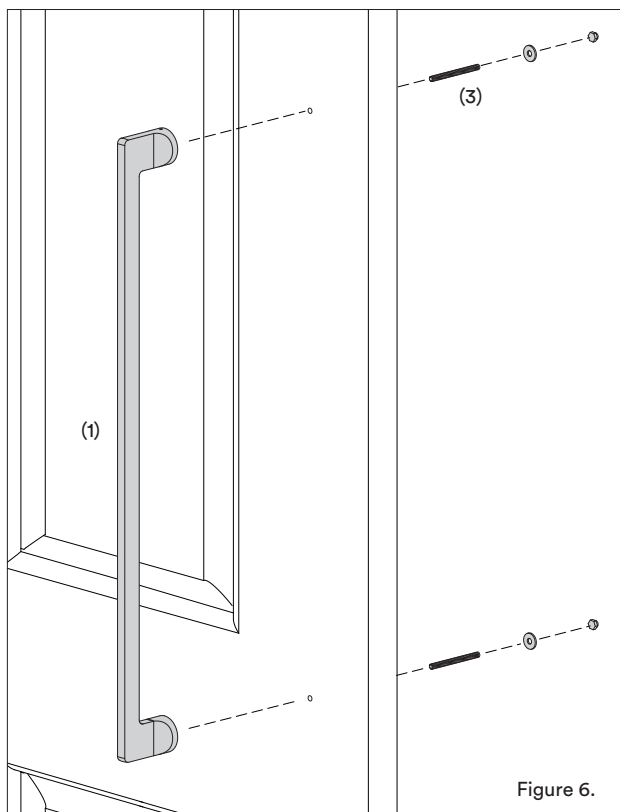

Figure 6.
- 4.4. With pencil spindles already attached to the pull handle, align the female thread of the pencil spindle to the top fixing bolt and tighten. Repeat for bottom fixing point. (Figure 6)